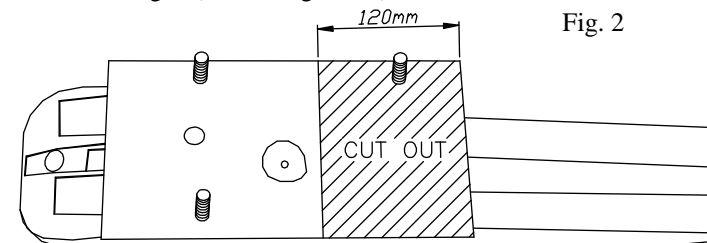

Fig. 2
3. Disassemble the bumper together with its aluminum reinforcement. Remove the adjustment wedges at the left and right (will not be assembled again). Cut out fragments inside of the reinforcement in accordance with fig. 2 (left and right side).